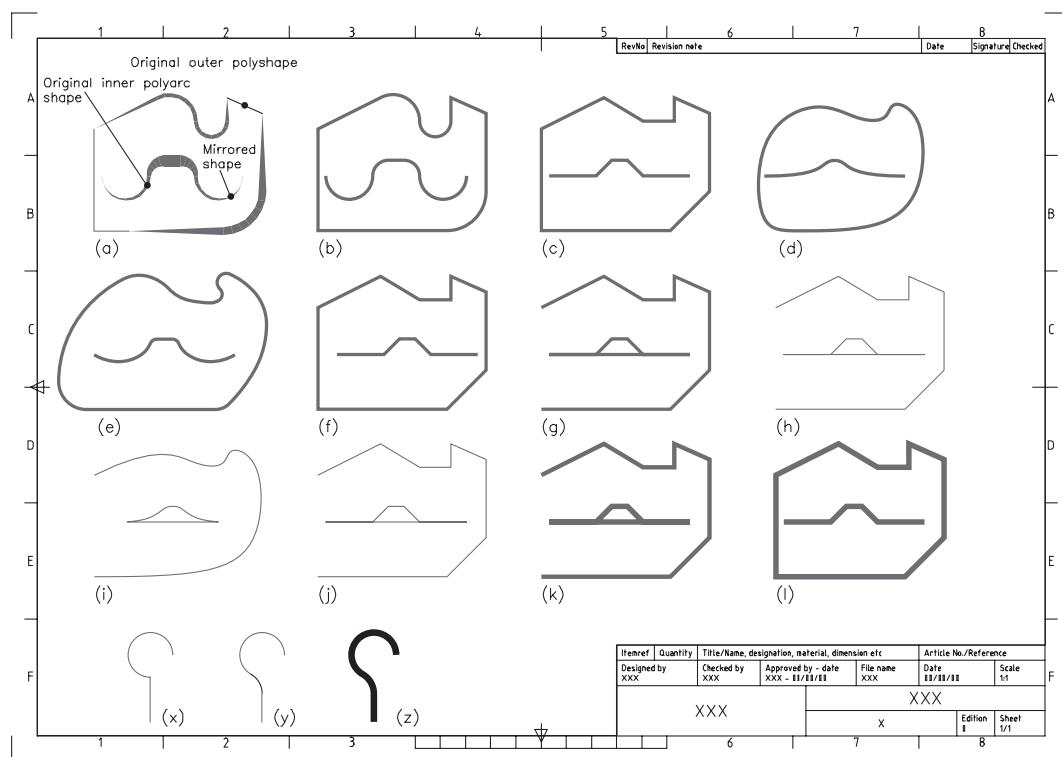

Figure 20.4 Editing polyline and arc segments.
- Open the earlier saved exercise POLYEX and refer to Figure 20.4.
- Note that Figure 20.4 displays a scaled version of the polyline exercises.
respond pick any point on original outer polyline shape – Figure 20.4(a)
1 This is a very useful option as it allows several individual polylines to be ‘joined’ into a single polyline object. Refer to Figure 20.4 again.
c) EXCEPTION: enter C(lose) instead of O(pen) and (O)pen instead of (C)lose.
- 8 Refer to Figure 20.4 and:
a) draw a vertical line and a three point arc, any size as Figure 20.4(x)
b) add a fillet between these two objects – Figure 20.4(y)
enter W <R> then 3 <R> – Figure 20.4(z)